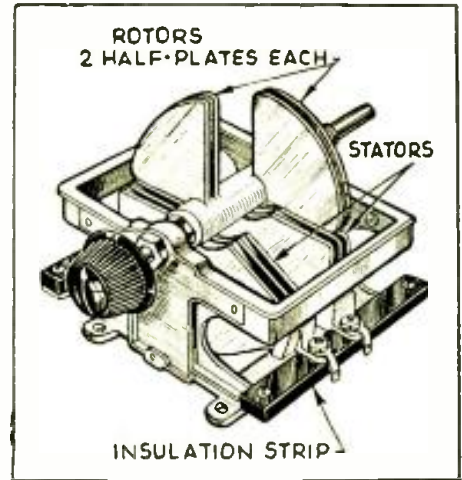

Fig. 3. Antenna switch works by capacity variation.
S.P.D.T. "CAPACITY SWITCH." I have made what I call a "capacity switch" for use in switching, noiselessly, from one antenna to another, or switching the antenna from one stage to another, as ordinary contact switches were unsatisfactory. It also has several other uses. The only part needed to make it is an old tuning condenser with a stator block that can be split, such as the Zenith, Cardwell, etc. The stator is split as shown in Fig. 3. The rotor plates are then cut with a hacksaw, and